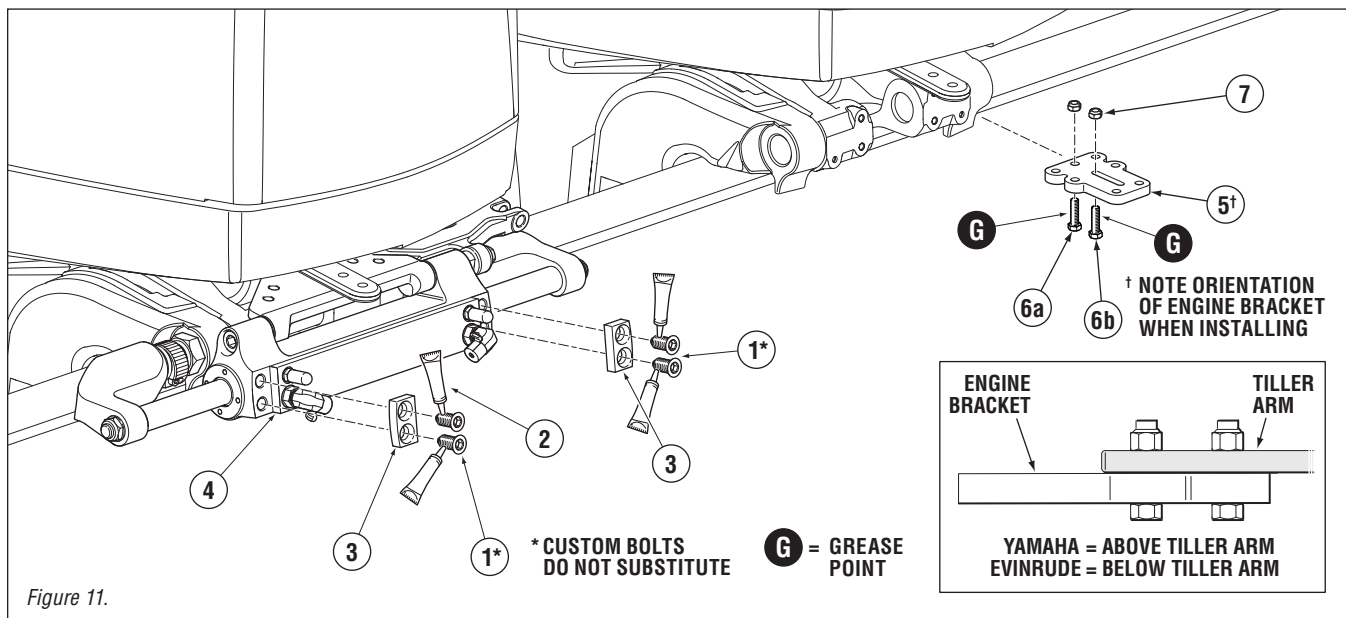

Figure 11.
**Blanking Plate Installation (items 1–3)**
1. Apply thread locker (item 2) to the threads of item 1.
**NOTE:** Thread locker (item 2) is included with the hardware kit.
**Thread locker MUST be installed onto all four bolts (item 1). Failure to do so may lead to separation of components.**
2. Mount blanking plates (item 3) to both sides of steering cylinder (item 4) as shown in Figure 11.
**Engine Bracket Installation (items 5–7)**